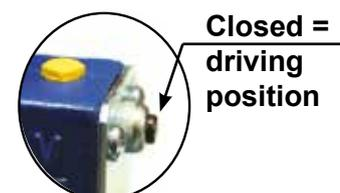

Figure 5
- After coupling and before starting to drive, always make sure that the coupling head is in the driving position as illustrated in **Figure 5**.